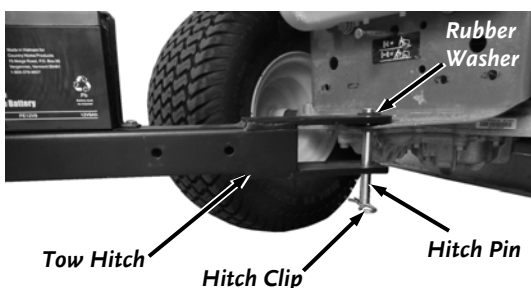

Figure 51
1. Lawn Vacuum on level ground (**Figure 51**).